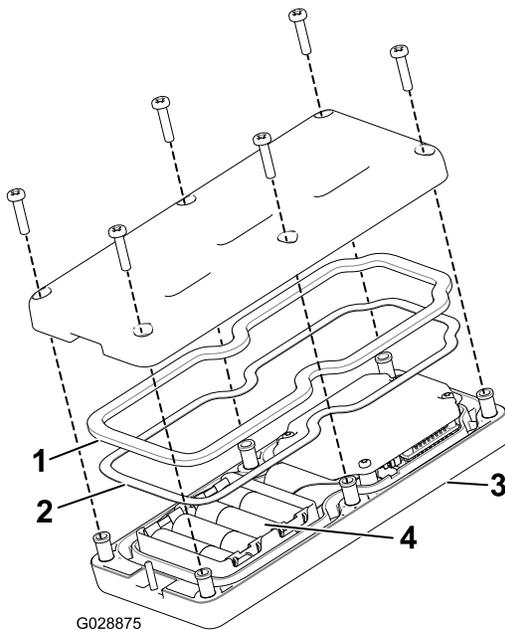

Figure 12
2. Plug each battery into a terminal cradle observing proper polarity. (If the batteries are improperly installed, the unit will not be damaged, but it will fail to operate.) The cradle is embossed with polarity markings for each terminal (Figure 12).
3. Ensure that the steel gasket and rubber seal are seated in the channel in the remote and set the back cover in place (Figure 12).
4. Secure the cover with 6 screws (Figure 12) and torque them to 1.5 to 1.7 N-m (13 to 15 in-lb).